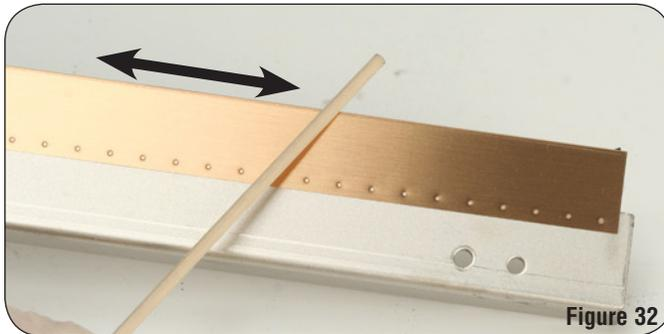

Figure 30
11. Note the location of the keyed end of the developer roller before removing it. Remove the developer roller, as shown in Figure 30. Clean the developer roller using dry filtered compressed air and wipe from the center toward the edges with a lint-free cloth.